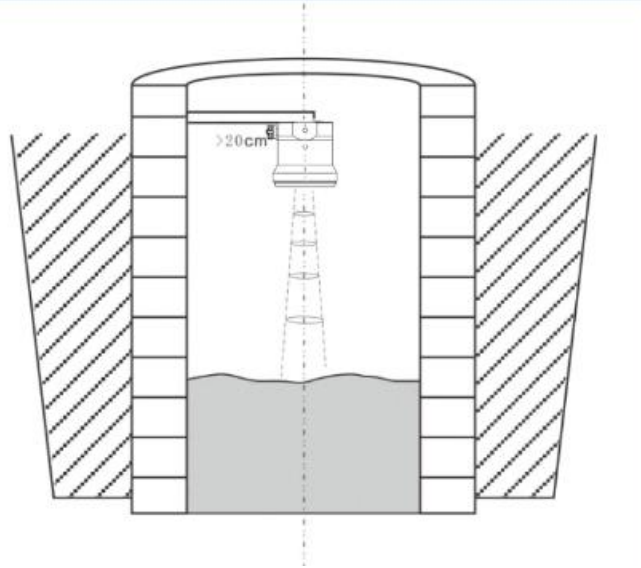

Figure 4-3: Installation with at Least 20cm Clearance from the Container Wall
- ✓ Install the instrument at least 20cm away from the side wall. For underground pipeline installations, position the instrument as close to the center of the manhole as possible to prevent interference signals from the well walls, which can affect measurement accuracy. As shown in Figure 4-3.